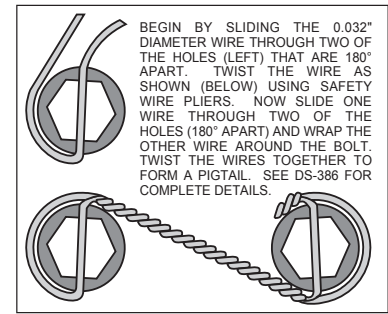

Figure 3. Safety Wire Diagram
- The caliper mount bracket assembly (1) should be installed first with clean, dry threads on the mounting bolts. Install the bracket by sliding bolt (4) through washer (2) from the back side through the lower caliper mounting ear on the spindle. Slide bolt (3) through washer (2) from a 90° degree angle on the upper portion of the steering arm. The bracket must tighten squarely against the outboard side of the caliper mount bosses on the spindle body. Inspect for interference from casting irregularities, machining ridges, burrs, etc. Later, after the caliper, pad, and rotor alignment has been checked, and any necessary shims have been put in place, the threads of the mounting bolts should be coated with red *Loctite*® 271 and torqued to 65 ft-lbs.
- Install wheel studs (5) into the hub (6). Torque to 77 ft-lb. **NOTE:** *There are two (2) five lug patterns in the hub (5 x 4.50 and 5 x 4.75).* Make sure of the correct hole pattern for the correct wheel application before installing studs into hub.
- Pack the large inner bearing cone (7) with high temperature disc brake bearing grease (available from your local auto parts store) and install into the backside of the hub (6).
- Install the grease seal (8) by pressing into the backside of the hub (6).
- Pack the small outer bearing cone (14) with high temperature disc brake bearing grease and install into front of hub (6). Slide the hub assembly (5, 6, 7, 8 and 14) onto the spindle. Secure using spindle washer (15), stock adjusting nut and nut locking device. Adjust bearing using a 12" wrench to tighten the adjusting nut while turning the rotor. When the rotor binds slightly, all the bearing parts are seated properly. Back of the nut 1/6 to 1/4 of a turn or enough to allow 0.001 to 0.007 end play. Lock the nut with a new cotter pin. **WARNING:** *Failure to back off the adjusting nut may cause the bearing to run hot and be damaged, which could cause the wheel to lock or come off during operation, creating a risk of serious bodily harm.*
- Install the o-ring (16) on the dust cap (17), and screw dust cap assembly onto the hub (6). Friction created by the o-ring (16) on the dust cap (17) keeps it from unscrewing.
- With the larger I.D. side of the rotor (9) facing away from the hat (10), bolt rotor (9) to hat(10) through the backside of the rotor using washers (11) and bolts (12). Using an alternating sequence, apply red *Loctite*® 271 to the threads and torque bolts to 155 **in-lb**. For an added measure of security, the bolts may be safety wired using standard 0.032 inch diameter stainless steel safety wire as shown in Figure 3. Please refer to Wilwood's data sheet DS-386 (available at www.wilwood.com/Pdf/DataSheets/ds386.pdf) for complete safety wire installation instructions.
- Slide the rotor/hat assembly over the studs (5) in the hub (6) taking care to align the small countersunk holes in the hat (10) with the small threaded holes in the hub (6). Install three flat head socket head screws (13) through the small holes in the hat (10) and torque to 85 **in-lb**.